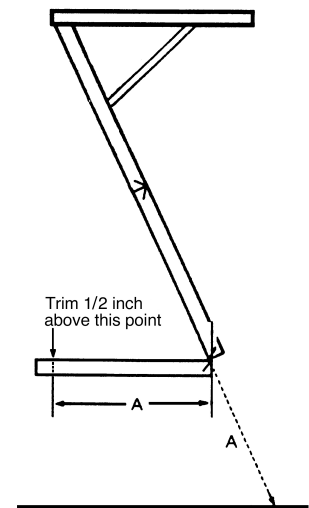

Fig. 1
STEP 2: Fold the bottom section of the stairway under the middle section, so that the top and middle sections form a straight line (Fig. 1).
STEP 3: Measure distance A and mark the distance on the A side of the bottom stringer (Fig. 1). Mark this reference point on both sides of the stringer. Draw a straight line 1/2 inch *above* these reference points. It is possible for the landing area to be uneven, so repeat this procedure on the other stringer.